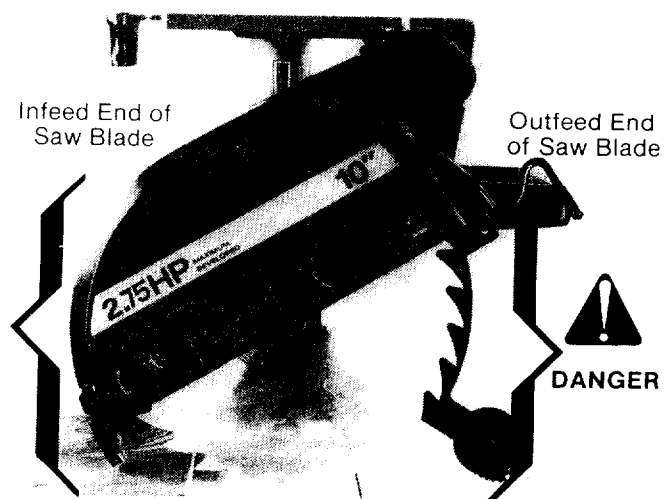

Fig. 132 - Infeed and Outfeed Ends of Saw Blade
Wrong way feed is feeding the workpiece into the end of the blade with pawls, the outfeed end. (Figure 132) There are two things that can happen if you feed the workpiece into the outfeed end of the saw blade:
4. Go to the in-feed end of the saw blade. (Figure 132)